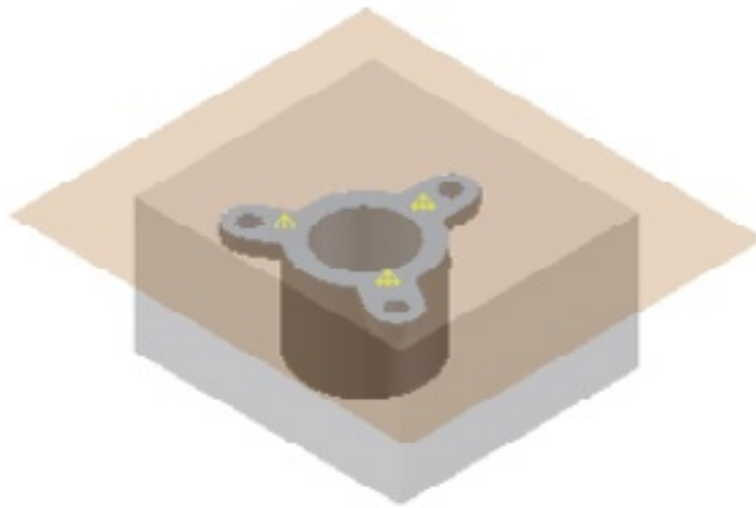

Figure 19-77 *Preview of the runoff surface*
2. Select the outer loop of the top face of the model; a preview of the runoff surface is displayed, refer to Figure 19-77.